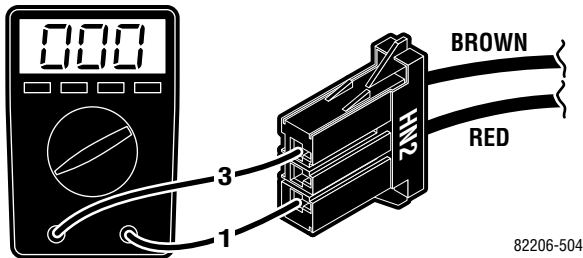

Figure 5-4. Connector HN2 Test
2. Connect HN1, disconnect HN2 (brown and red wires) and using an AC voltmeter, test the transformer output at HN2. See figure 5-4.